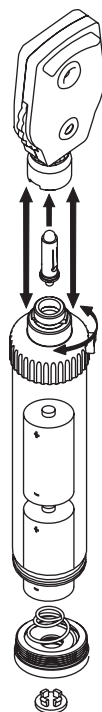

Fig. 2
Battery handle shell not be dipped into water. Remove battery components while cleaning. Periodically check the battery condition, making sure that no sign of corrosion or oxidation is present, in case they have to be replaced, it is highly recommended to use new alkaline ones. For battery replacement see fig.2.
Remove Ophthalmoscope head as advised in operating procedure (See fig.2) .
- Once opened, insert the batteries paying attention to the direction of poles (see fig.2).